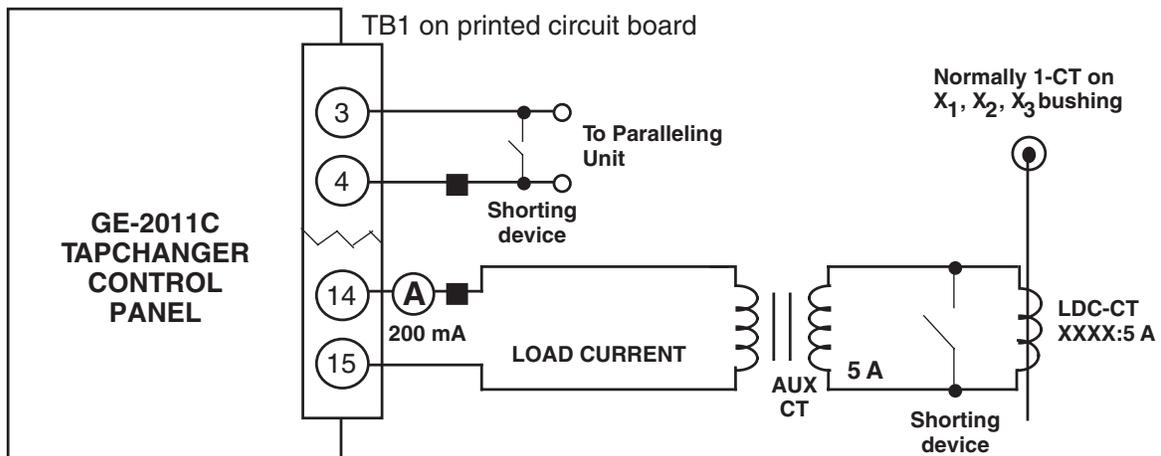

Figure 8-14 GE-2011C Setup for Current Checkout Procedure
1. Short the line drop compensator circuit by placing a shorting device of adequate capacity, across the LDC-CT secondary (See Figure 8-14).